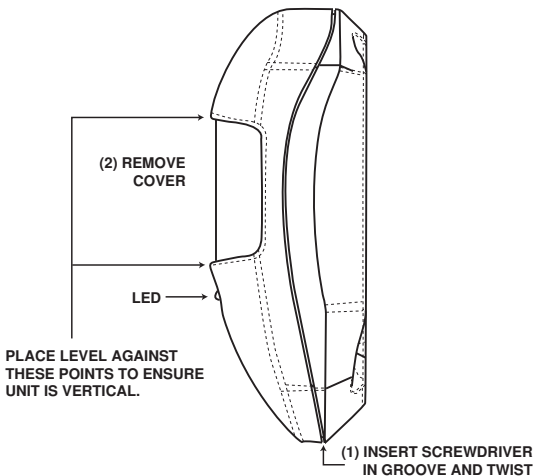

Figure 2. Cover Removal
1. Remove the front cover as shown in Figure 2.
4. Mount the base. A level may be used on the front case to ensure that the unit is vertical (see Figure 2).